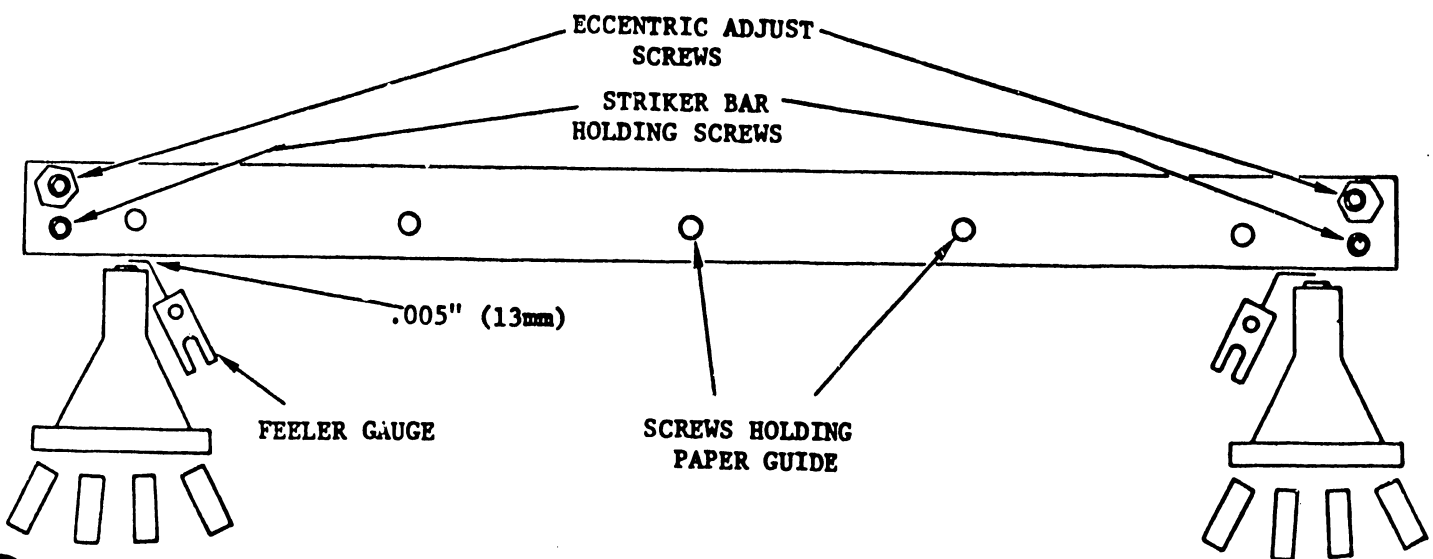

FIGURE 5-2 STRIKER BAR ADJUSTMENT
5.3.1 STRIKER BAR (See Figure 5-2)
- 5) Remove the five Phillips screws from the striker bar (Figure 5-2).